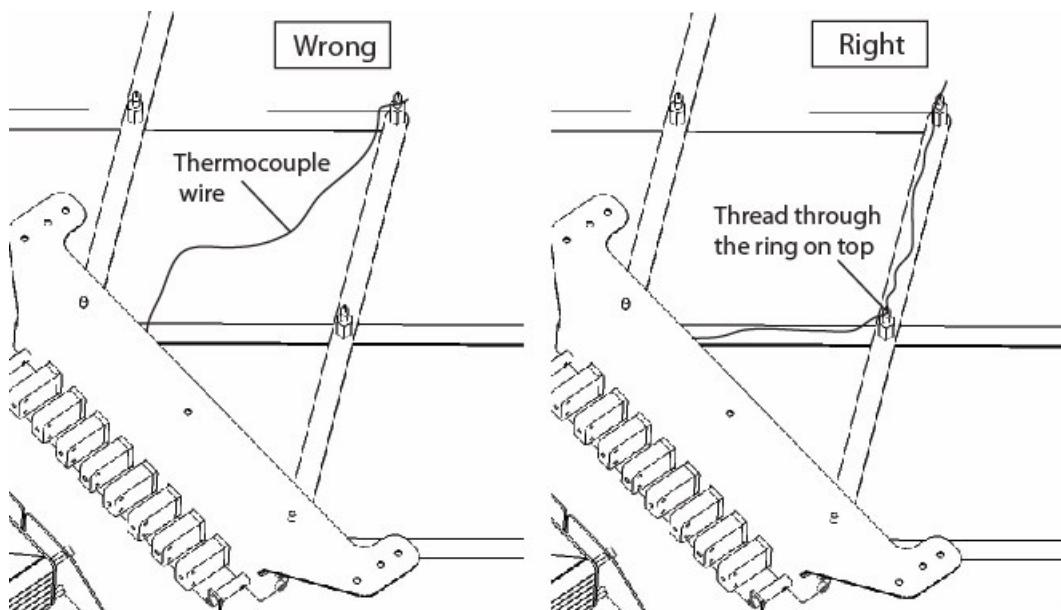

Figure 8. Thermocouple Routing
1. Always route the thermocouple wire along the longitudinal axis (long axis) of a TC-Bridge member, as shown in Figure 8. By doing this, the thermocouple wire will follow the motion of TC-Bridge members during deployment and stowage.